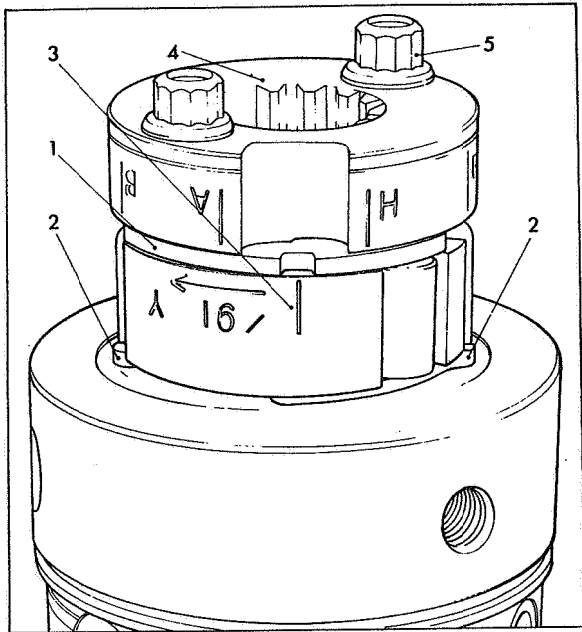

Fig 19 Top adjusting plate alignment
Fit the top adjusting plate (1) Fig 19 with its chamfered edges downwards and engage the legs of the plate in the guide slots of the bottom adjusting plate (2). Locate the two plates so that the fuel adjusting slot in the top plate coincides with the scribed line on the distributor rotor head (3) as shown. Assemble drive plate (4), machined recess downwards and align slot between letters 'A' and 'H' with the top adjusting plate slot as shown. Assemble drive plate screws (5) and finger tighten.